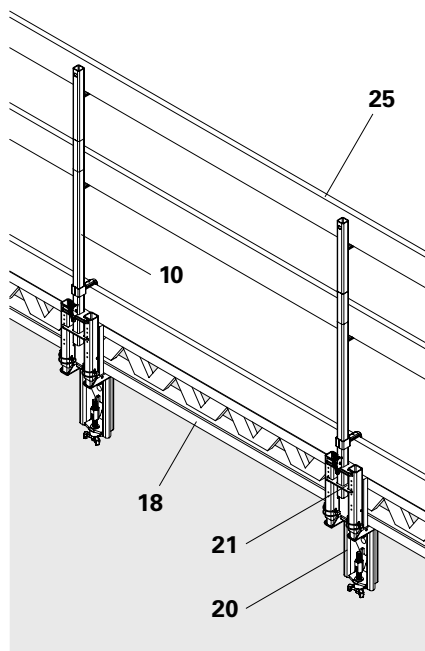

Fig. E1.01
8. Create slab edge formwork with lattice girders (**18**) and formwork panels (**26**) and fix to the plug-in unit with wood screws or nails. (Fig. E1.01 + E1.02)